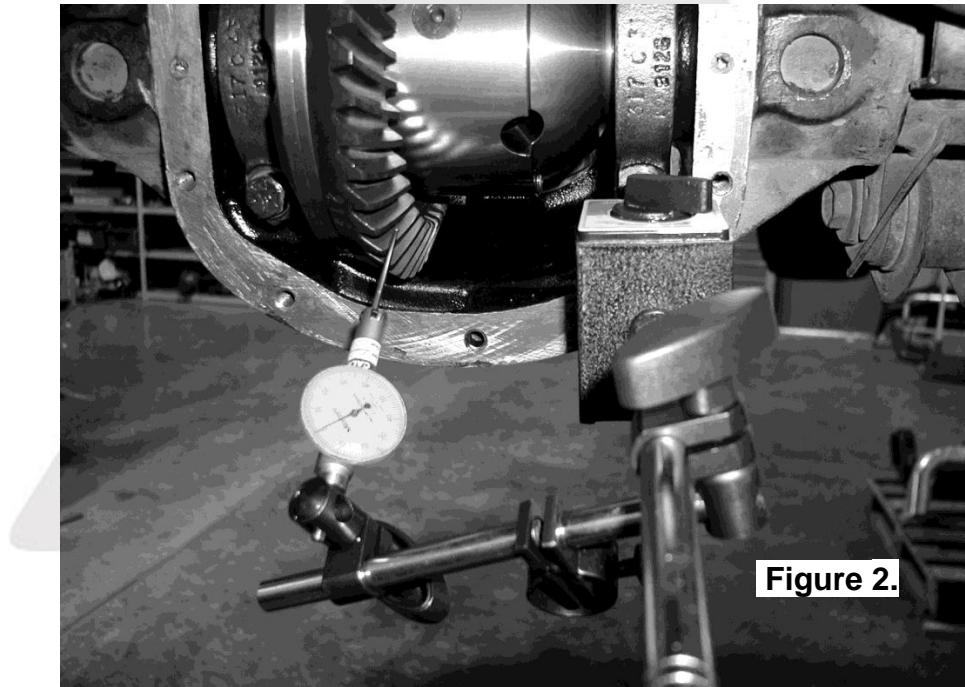

Figure 2.
- Set a depth indicator on one of the ring gear teeth as in figure 2.